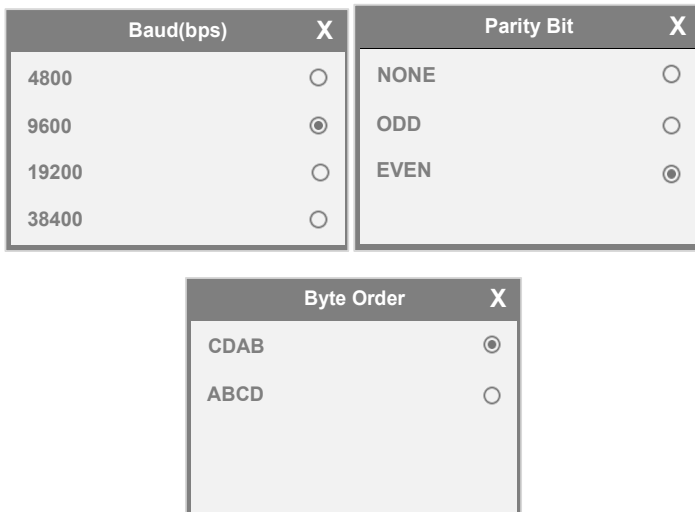

Figure 47 Communication Interface
- 4) The peristaltic pump communicates through RS485 with default settings of 9600 communication rate, 8 data bits, even parity check, and 1 stop bit. These parameters can be modified in the common parameters of the communication settings, as shown in Figure 47. Once successfully connected, the pump's functions can be controlled by an external device.